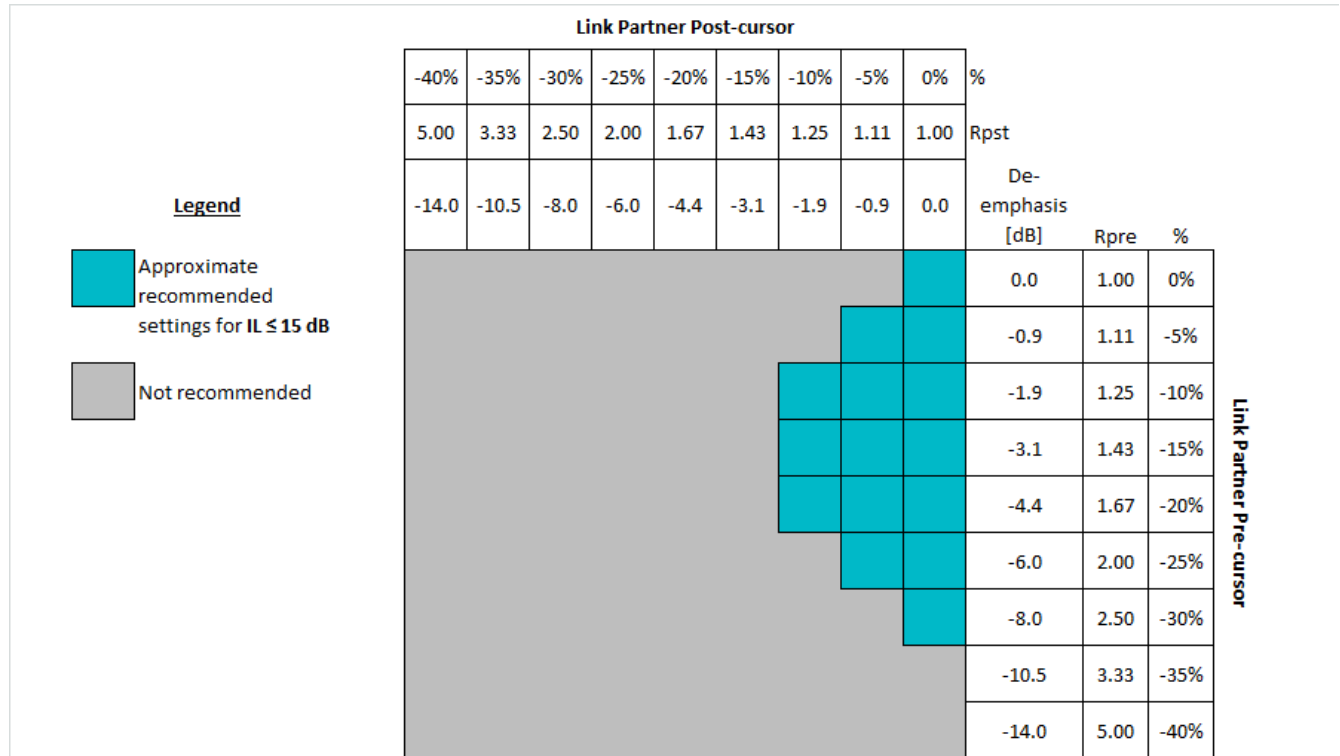
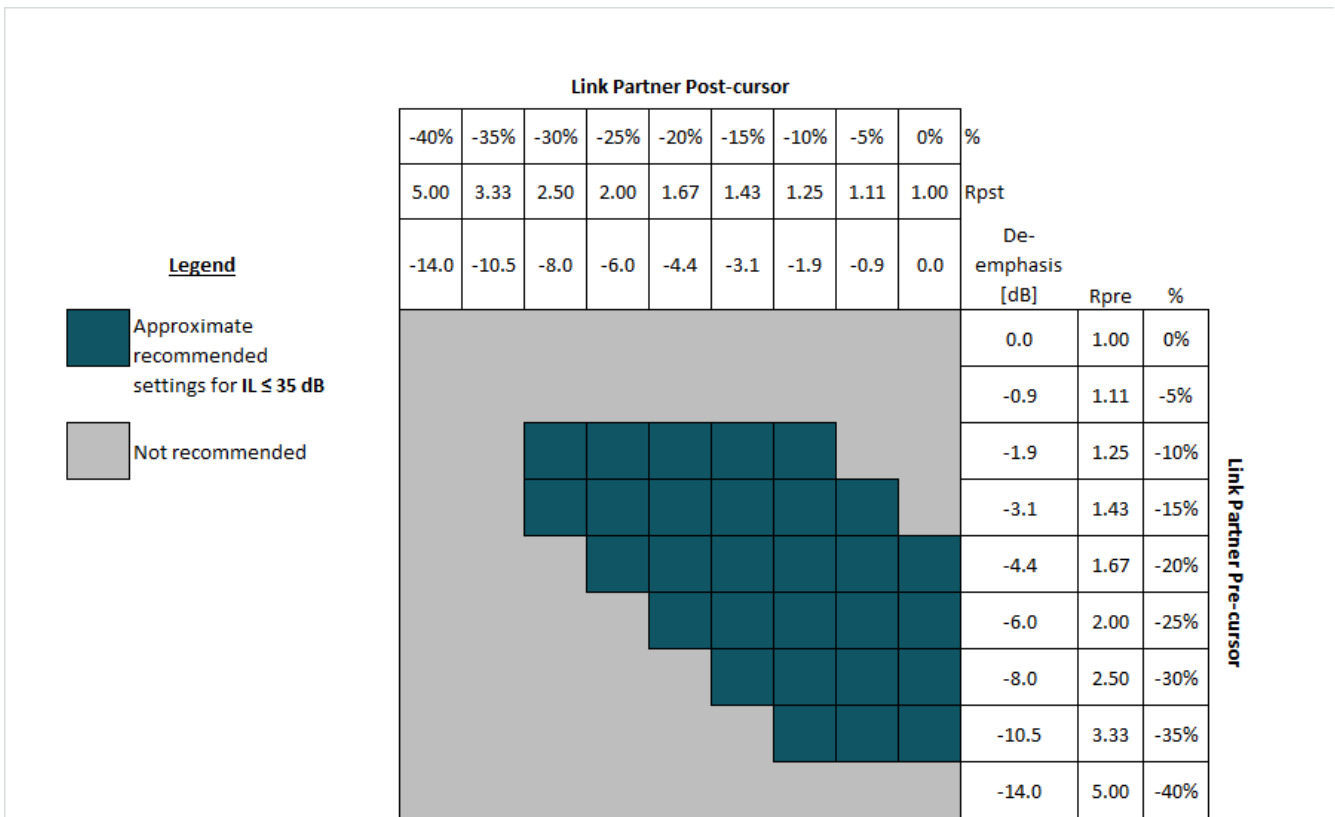

图 8-5. Guideline for Link Partner FIR Settings When IL ≤ 15 dB
图 8-7. Guideline for Link Partner FIR Settings When IL ≤ 35 dB
The recommended pre-cursor and post-cursor settings for a given channel will depend on the channel characteristics (mainly insertion loss) as well as the equalization capabilities of the downstream receiver. The DS250DF230 receiver, with its highly-capable CTLE and DFE, does not require a significant amount of pre- or post-cursor. The guidelines in 图 8-5 through 图 8-7 give general recommendations for pre- and post-cursor for different channel loss conditions. The insertion loss (IL) in these plots refers to the total loss between the link partner transmitter and the DS250DF230 receiver.